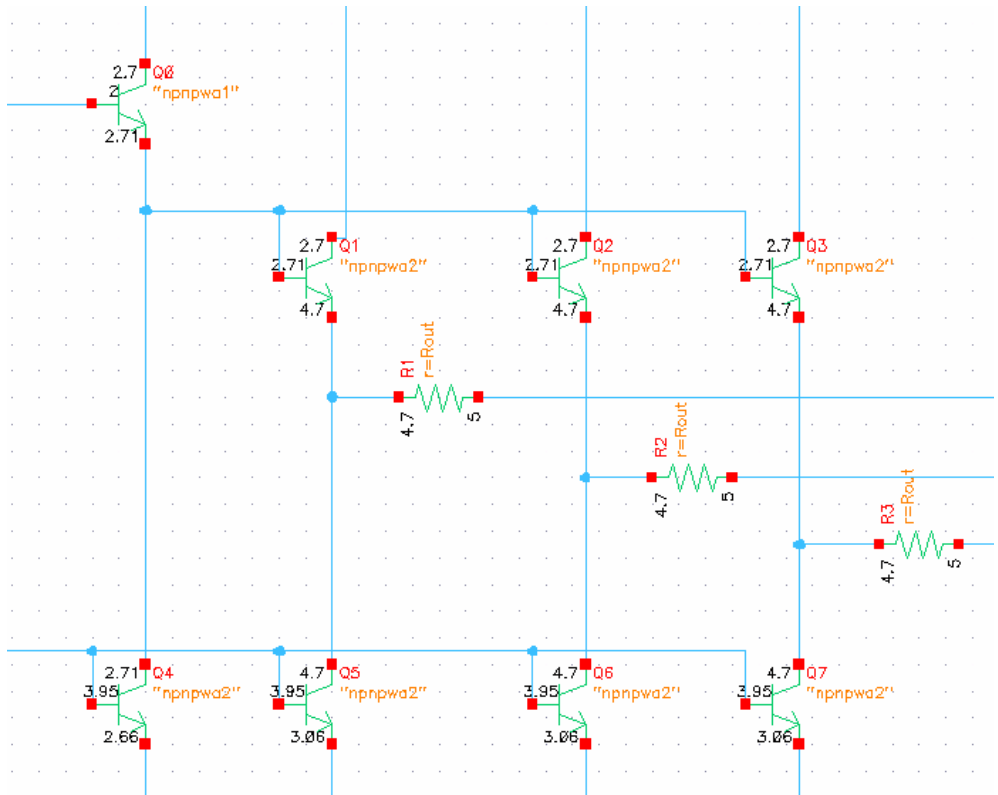

Figure 8-2. DC Voltage Annotation on the Cadence Schematic
4. The voltages are then displayed on the Cadence schematic as shown in Figure 8-2.
The path for the Data Directory used in the example for Figure 8-2 was,